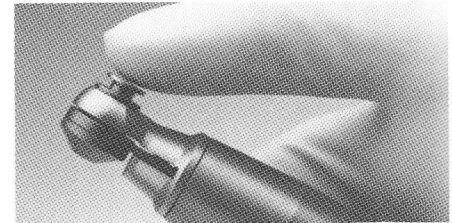

Figure 15
1. Push lock button to expose drive fins. See Figure 15.